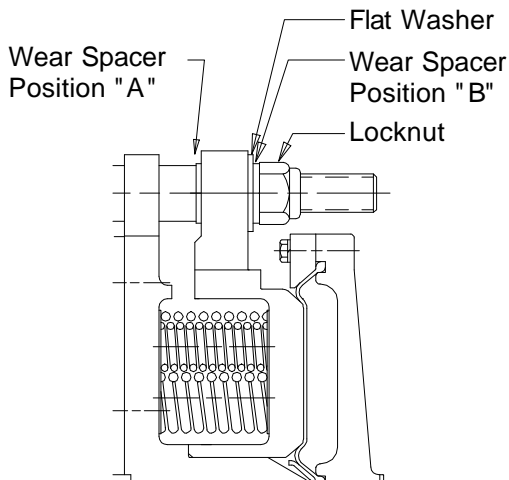

Fig. 8
*Note:* The wear rings (108) that are removed during these procedures should be stored for later use when the brake is rebuilt with new friction discs.
- 4.2.8 Using the value obtained by measuring gap "X" in 4.2.1, refer to Table 4 and Figure 8 and determine the proper quantity and location of the wear spacers (25).
number of wear spacers (25) onto the studs between the pressure plate and spring housing (position A on Figure 8). See Table 4 for proper quantity.
- 4.2.11 Install the washers (44), remaining wear spacers (25), and locknuts (9) removed previously. The wear spacers are stored under the locknuts (position "B") for re-use after replacing the friction discs. See Figure 8.
- 4.2.12 While supporting the weight of the pressure plate, spring housing and end plate assembly, tighten the locknuts ONE TURN AT A TIME and in a crosswise pattern, until the spring housing is seated against the clamp tubes. Torque the locknuts to 500 ft.-lb., lubed. See Figure 8.
- 4.3.23 Assemble the washers (44) and locknuts (9) onto the studs. Tighten the locknuts ONE TURN AT A TIME and in a crosswise pattern as on Figure 8, until the spring housing is seated against the wear spacers. Torque the locknuts to 500 ft.-lb., lubed.
- 4.5.15 Lubricate stud threads with 30 wt. oil or Never Seez®. Assemble the washers (44) and locknuts (9) onto the studs. While supporting the the weight of the pressure plate, spring housing and end plate assembly, tighten the locknuts ONE TURN AT A TIME and in a crosswise pattern, until the spring housing is seated against the clamp tubes. Torque the locknuts using the sequence shown on Figure 8 to 500 ft.-lbs.